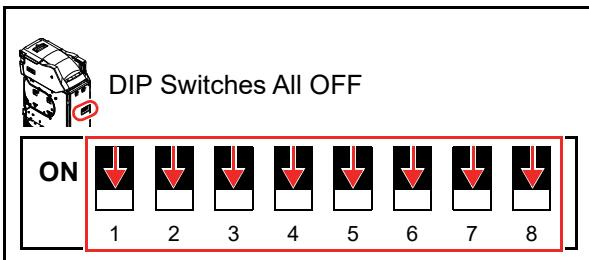

Figure 6-88 DIP Switch Test 9
11. Re-set the DIP Switches of the RT/RQ Unit as below (Figure 6-88).